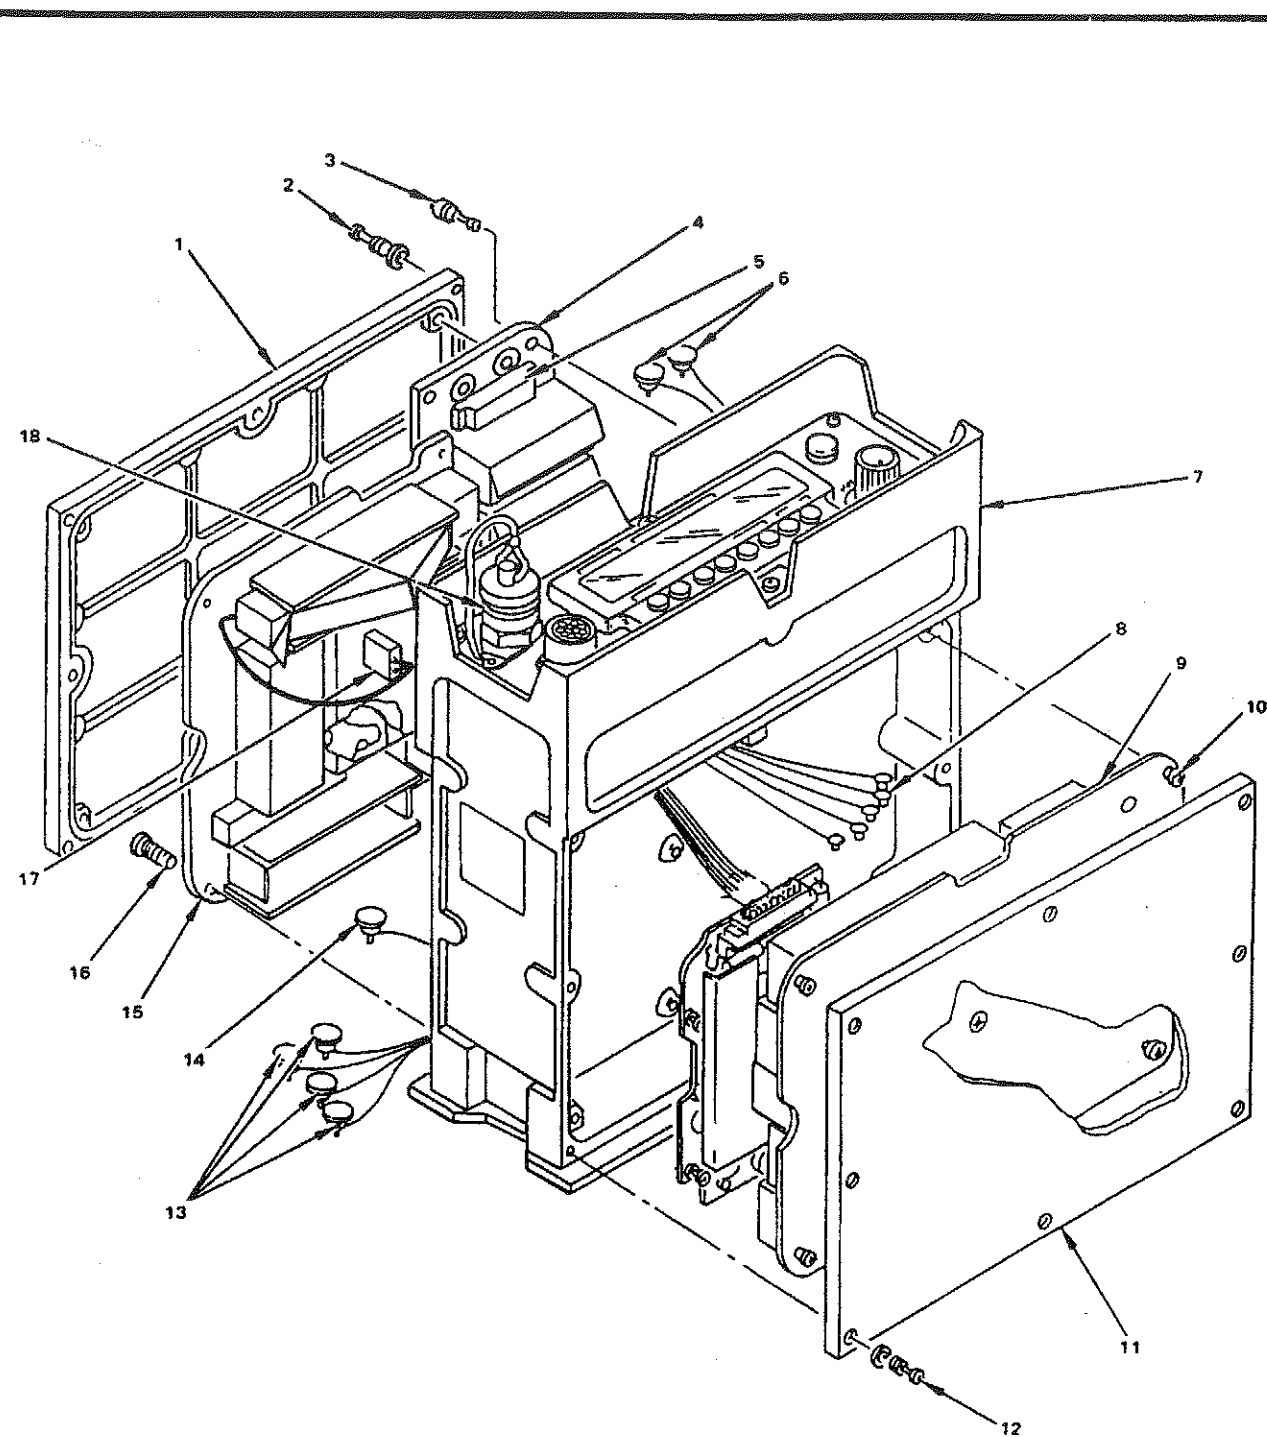

Figure 4-2. Modulator/Demodulator A1A1 Removal and Replacement (Sheet 2 of 2)
**MODULATOR/DEMULATOR A1A1 REMOVAL AND REPLACEMENT (2 of 2), fig 4-2**
1. Replace 10-pin connector (17) and tighten screw using correct size hex key.
2. Reconnect rf cable W6P2 (14).